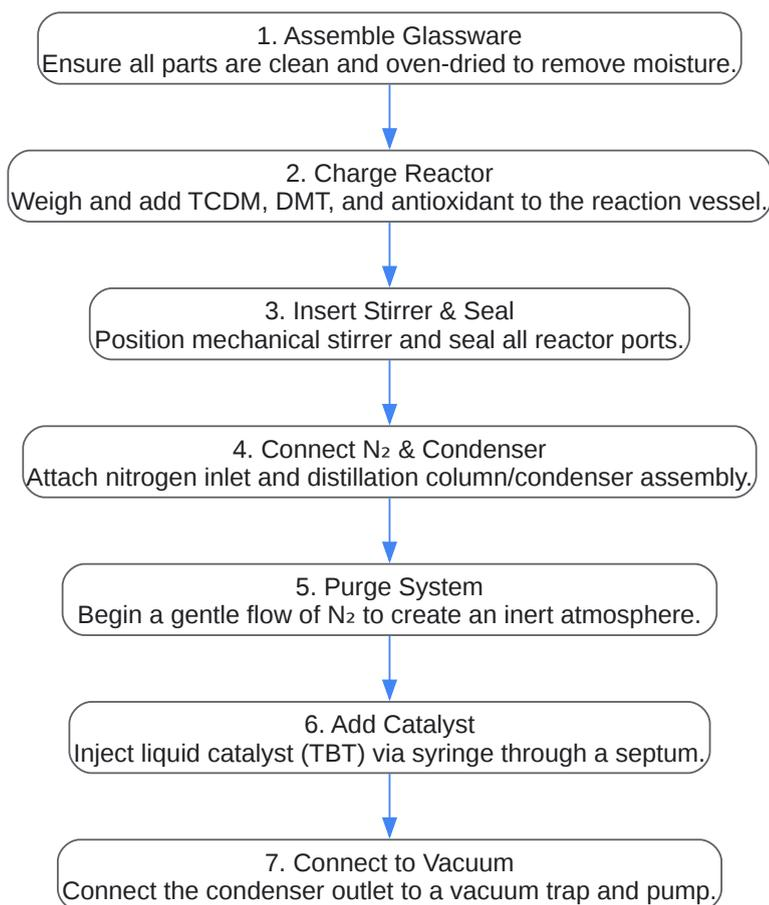

Fig. 2: Workflow for reactor assembly.
Caption: Fig. 2: Workflow for reactor assembly.
- Assemble the reactor as shown in the workflow diagram (Fig. 2). Begin a gentle purge of nitrogen gas through the system. [10] 2. Stage 1: Transesterification (Oligomerization):